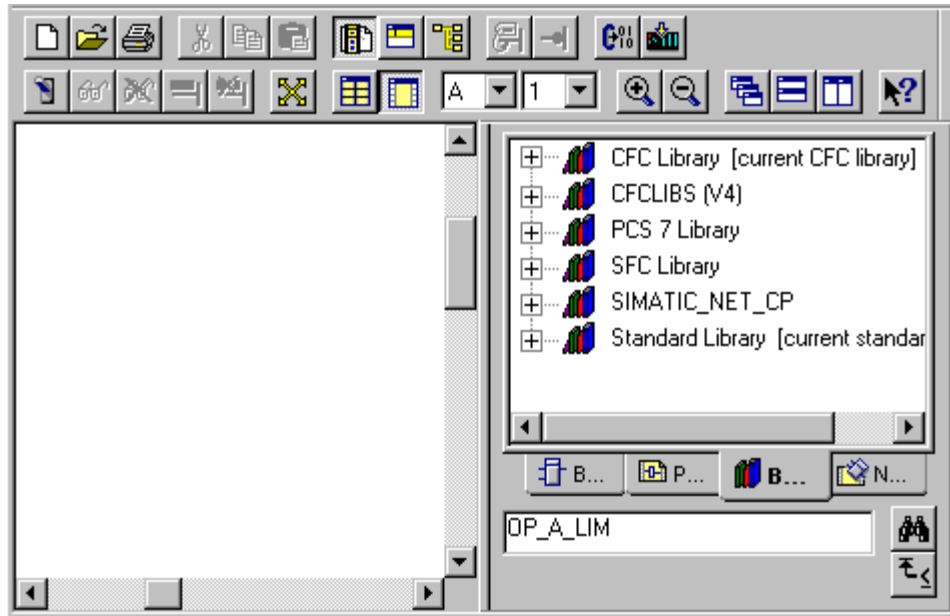

Figure 7-1 View of the Block Libraries in CFC
2. Open the CFC chart by double-clicking it, change to the block libraries and insert an analog input block with limit value monitoring (OP\_A\_LIM) by dragging it from the **PCS 7 Library/Technological Blocks** library to the chart. You can locate the block quickly by entering the name **OP\_A\_LIM** in the search box and then clicking the button with the "binoculars" with the block tab selected (see Figure 7-1).